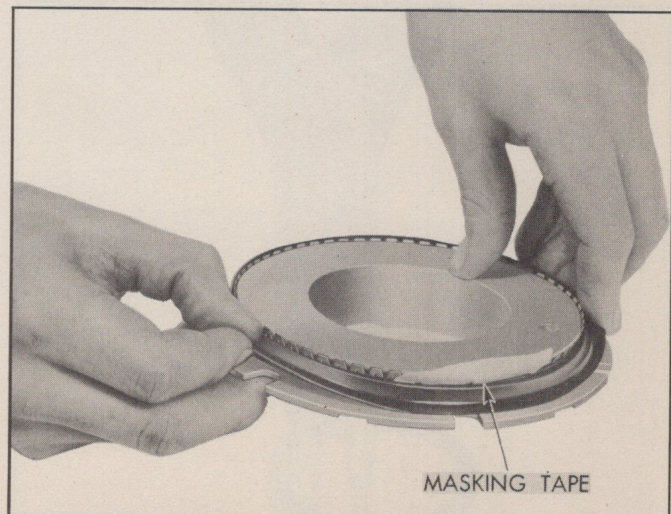

Fig. 240—Installing Outer Seal and Brass Expander
9. While holding expander in position with masking tape as shown in Fig. 240, work rubber seal well into groove with lip up. Remove tape by pulling out and up.
7. Install a new brass expander in piston groove with the lips facing up. While holding expander in position with masking tape (Fig. 240), work rubber